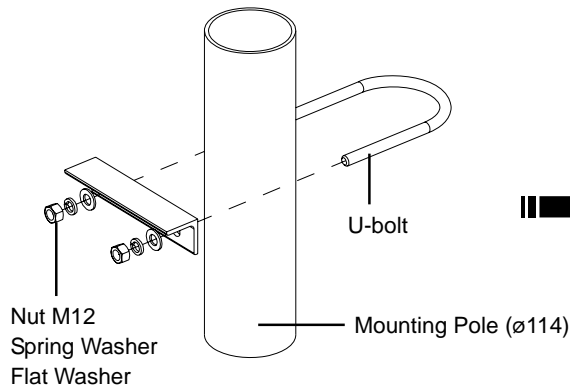

Fig 8.1
8.1 Fix Anti-skid Bracket to the Mounting Pole (shown in Fig 8.1).